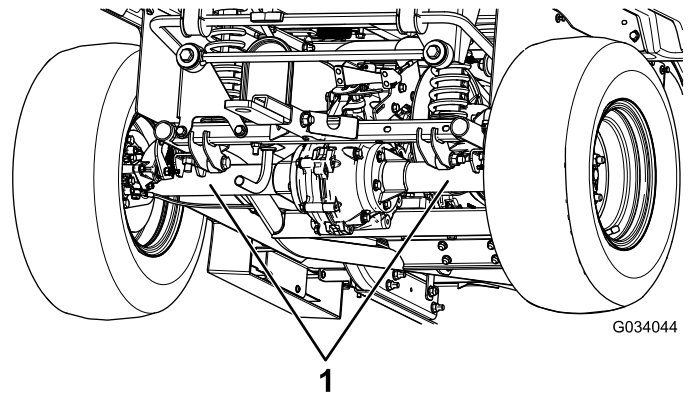

Figure 23
- The lifting point at the rear of the machine is located under the axle tubes (Figure 23).